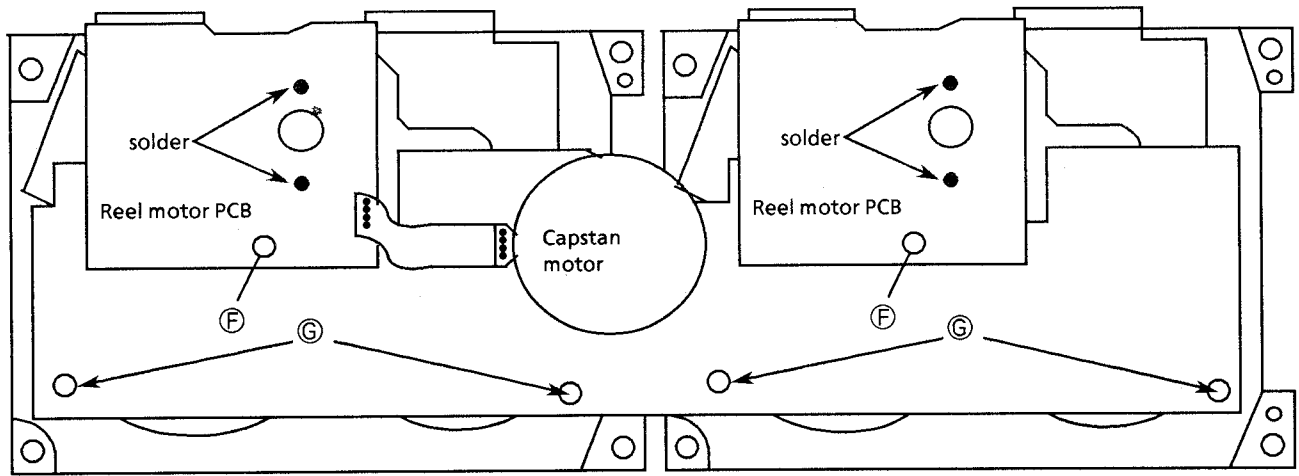

Figure 5 Rear view of the cassette mechanism
3. Remove the screw fixing the reel motor PCB (Figure 5).
4. Remove the 4 screws ② fixing the bracket (Figure 5).